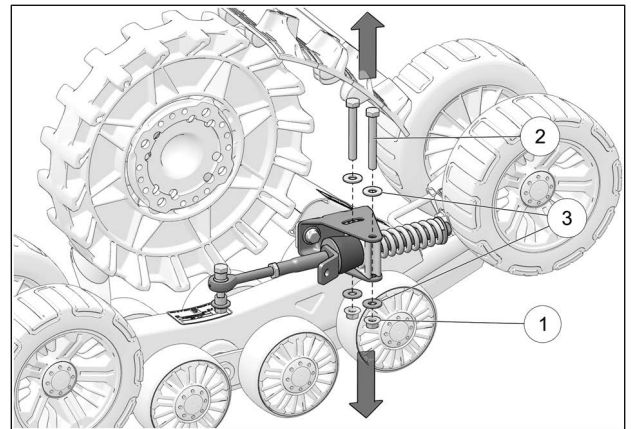

Fig. 12
3. Loosen and remove nuts (1), bolts (2), and washers (3) securing anti-rotation arm to front Track system. See Fig. 12